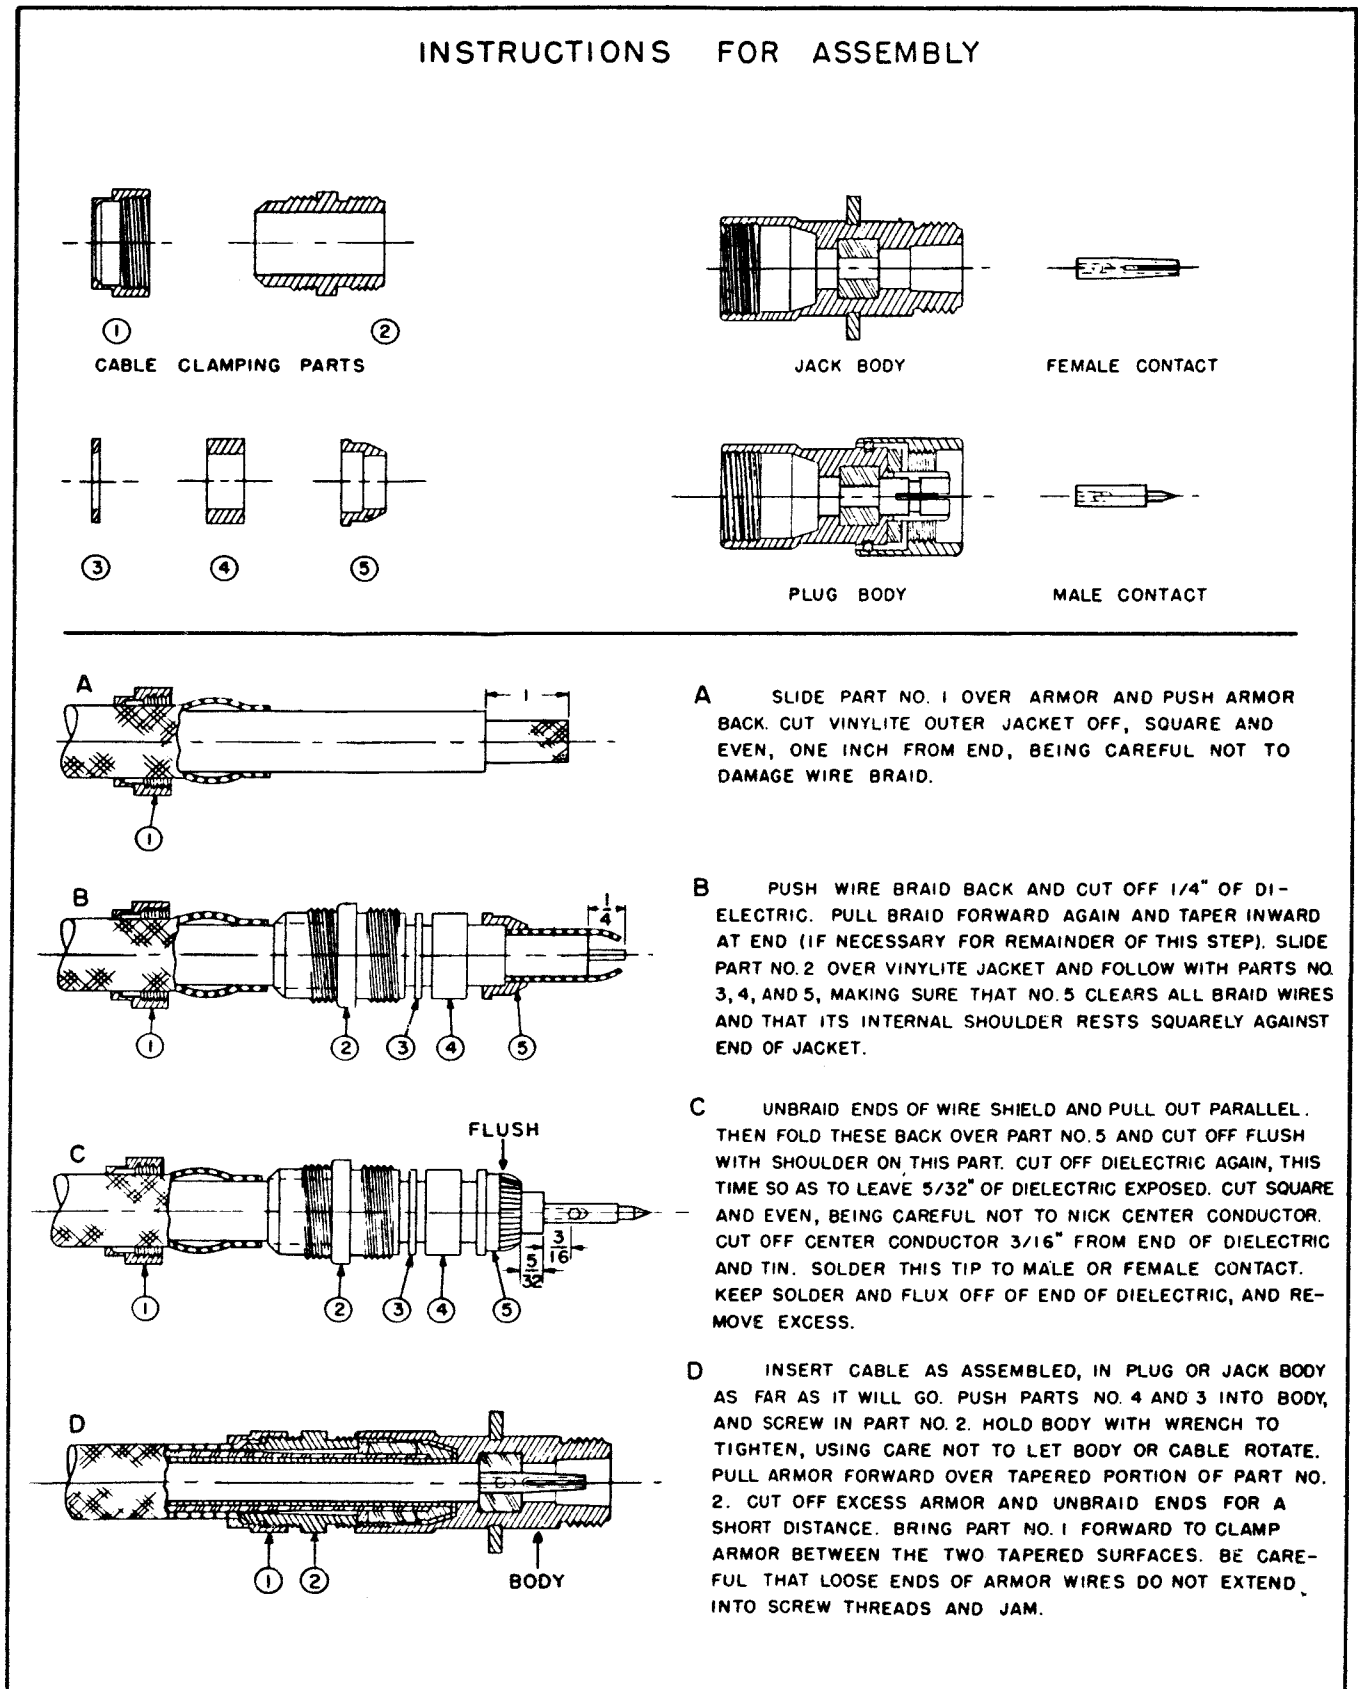

Figure 2-4. Antenna Cable, Connector Assembly
a. All connections are made using cable connectors (supplied). Figures 2-4, 2-5, and 2-6 show methods of assembly.